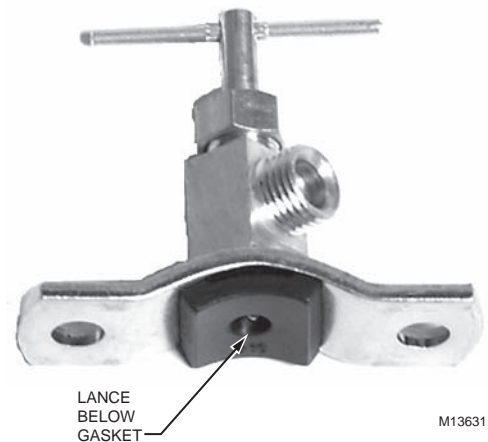

Fig. 31. Positioning Saddle Valve for installation with Copper Pipe.
2. Turn handle counter clockwise until piercing lance is below the rubber gasket. See Fig. 31.